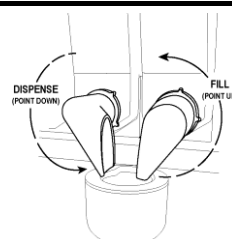

Figure 5b. Product Chute
1. Rotate the product chute so that it points up (loading position). See **Figure 5b**.
11. Rotate the product chute so that it points down (dispense position) to the whipper bowl. See **Figure 5b**.